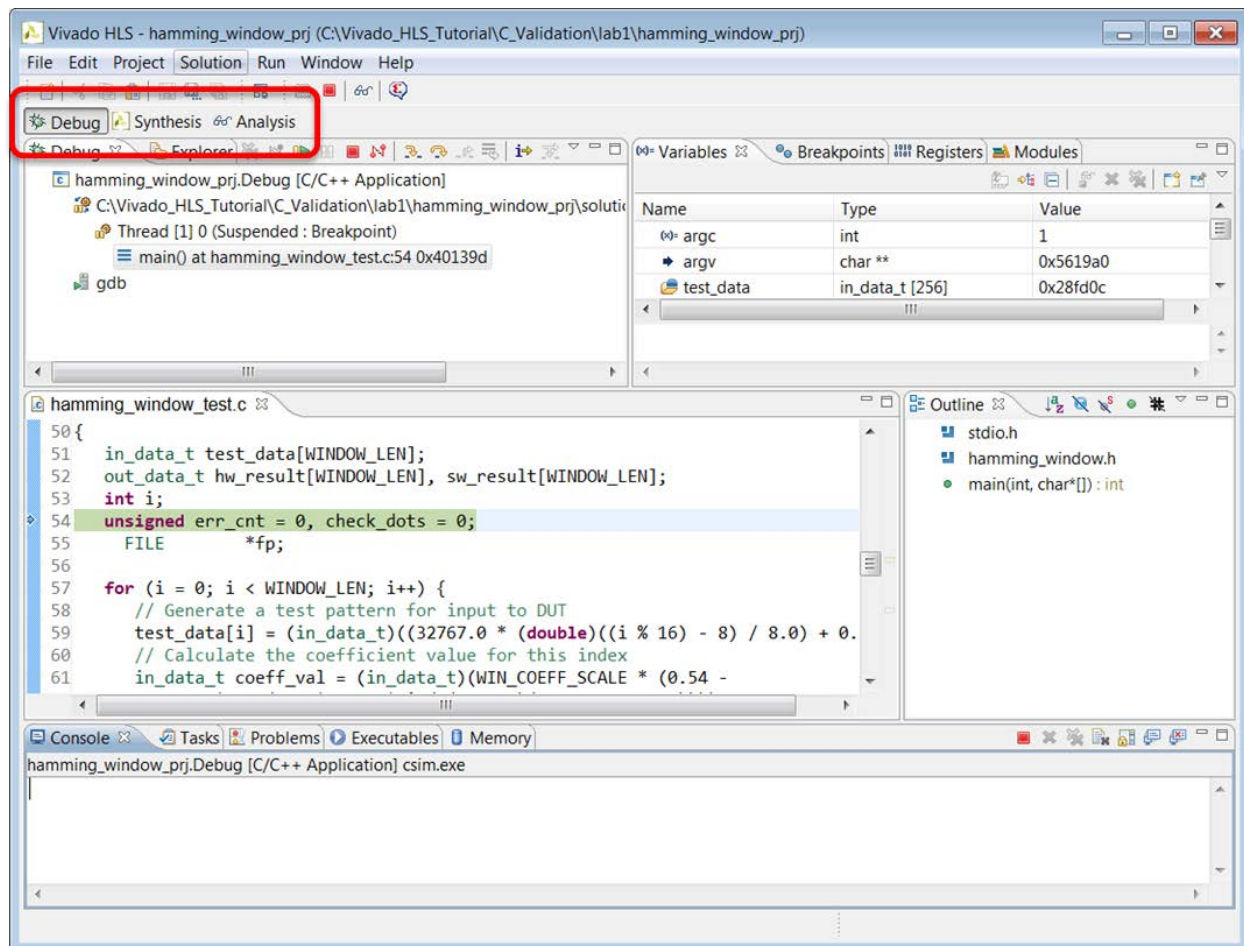

Figure 39: The HLS Debug Perspective
The Debug option compiles the C code and then opens the Debug environment, as shown in Figure 39. Before proceeding, note the following:
- Highlighted at the top-left in Figure 39, you can see that the perspective has changed from Synthesis to Debug. Click the perspective buttons to return to the synthesis environment at any time.